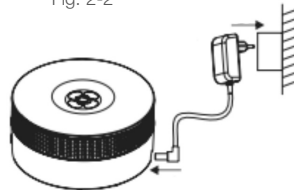

Fig. 2-4
4. Insert the connector of the power supply unit to the power supply socket on the appliance and then connect the power supply unit to the electrical outlet (Fig. 2-4).